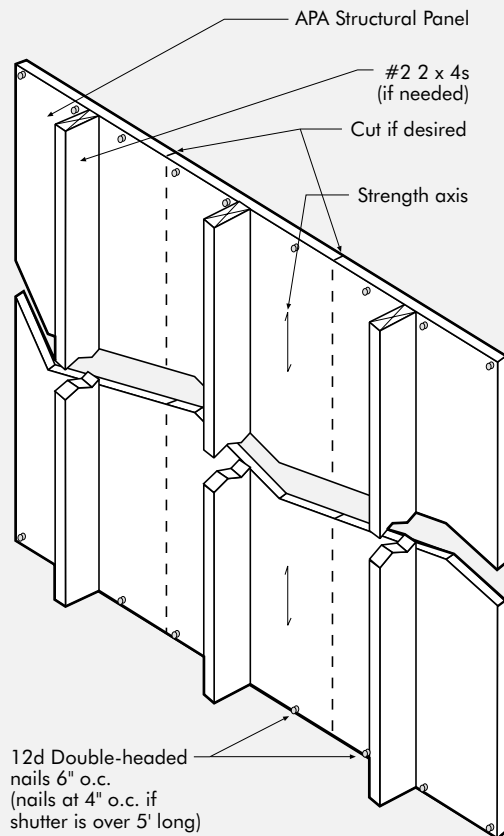

FIGURE 3A
4. Nail shims to the framing with 12d nails. Use 16d nails for shims over 3/4 inch thick. For spans up to 5 feet, space the nails 6 inches o.c. at each shim. For spans over 5 feet, space nails 4 inches o.c. at each shim. (Figures 3a and 3b)
5. Attach the shutters with double-headed nails for ease of later removal. (Figures 3a and 3b) Use 12d nails for shutters up to 3/4 inch thick and 16d nails for shutters over 3/4 inch thick. For spans up to 5 feet, space the nails 6 inches o.c. at each end of the shutter panel. For spans over 5 feet, space nails